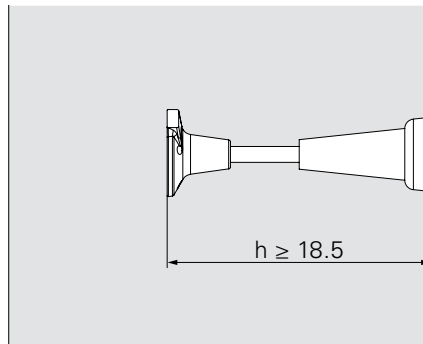

Fig. A2.08
- Anchoring depth  $h$  is variable but minimum 18.5 cm. (Fig. A2.08)